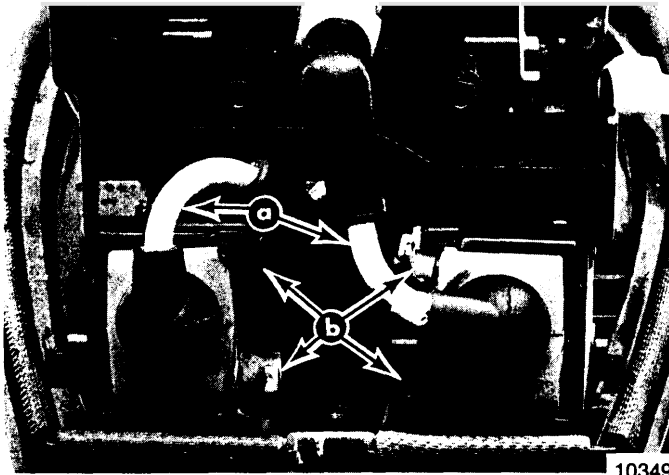

Figure 6. Rear View of Merc 40
11. Remove spark plug lead wires from spark plugs and remove spark plugs from cylinder block. (Figure 6)
12. Disconnect 4 coil primary lead wires from coils. (Figure 6)